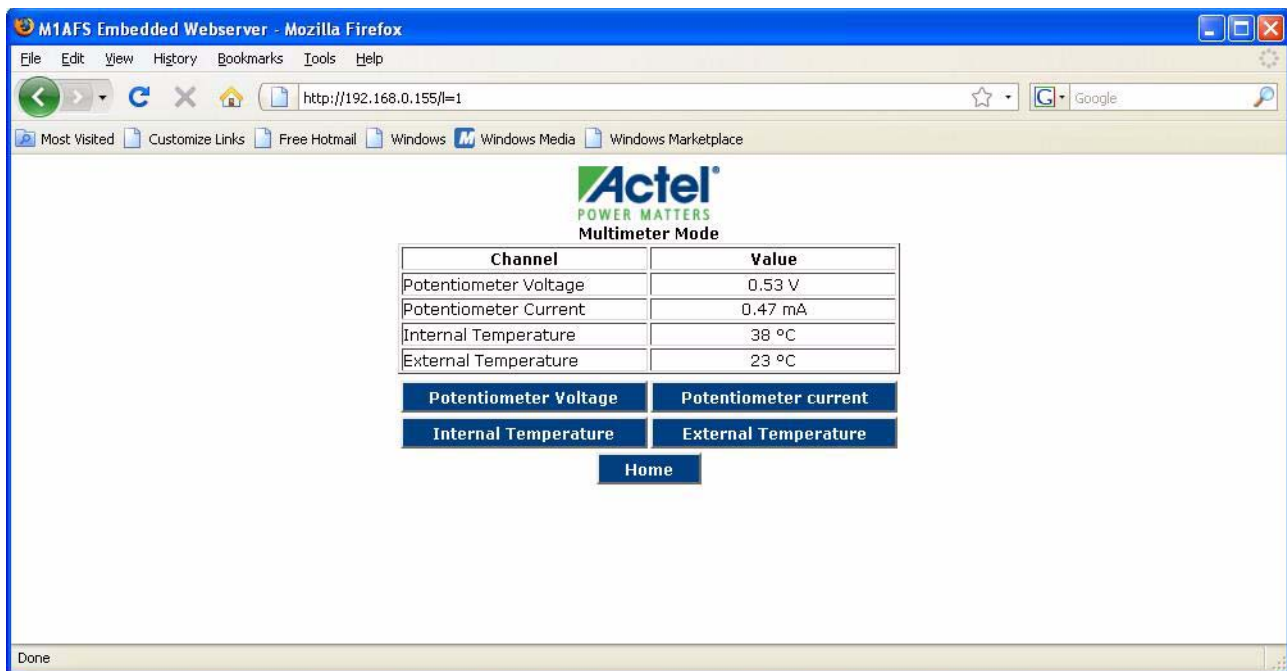

Figure 2-22 · Running Demonstration in Multimeter Mode
2. The web page displays readings of various analog channels, such as potentiometer, internal temperature, and external temperature of the board (Figure 2-22).
5. The Potentiometer Voltage reading value is changed on the web page as well as on the OLED display (Figure 2-22).